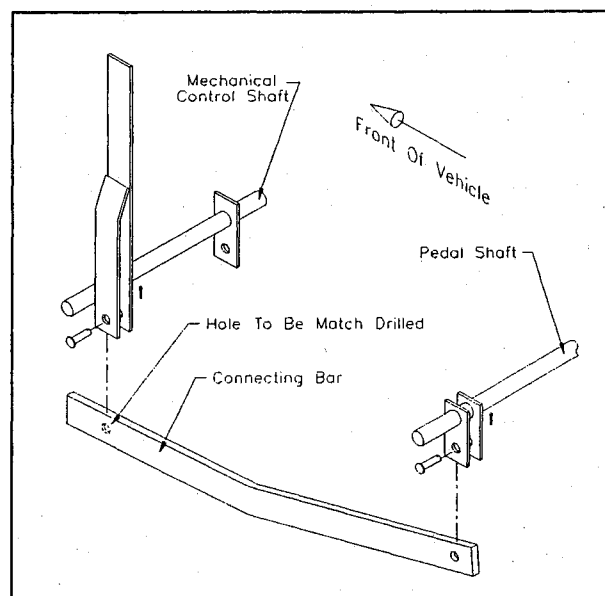

Figure 3-5.1
- Install the new connecting bar at the treadle shaft linkage tab with the clevis pin and new cotter pins (see figure 3-5.1).